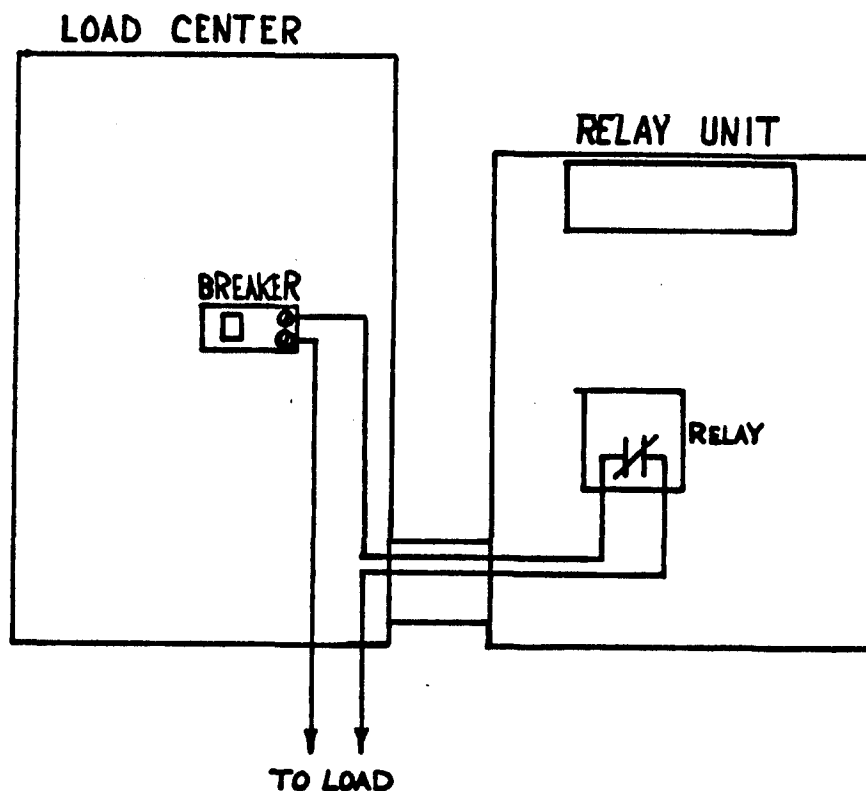

Figure 6
4. Remove either ONE of the two wires from each load and wire-nut this lead to a short length of #10 or #12 AWG (depending on load size) wire which runs into the Relay unit. Wire-nut this length of wire to one lead of the relay's contact. With another short length of the appropriately sized wire, wire-nut it to the other lead of the relay's contact. Connect the other end of this short length of wire back to the circuit breaker's terminal where the wire was originally removed as shown in FIG. 6. below.